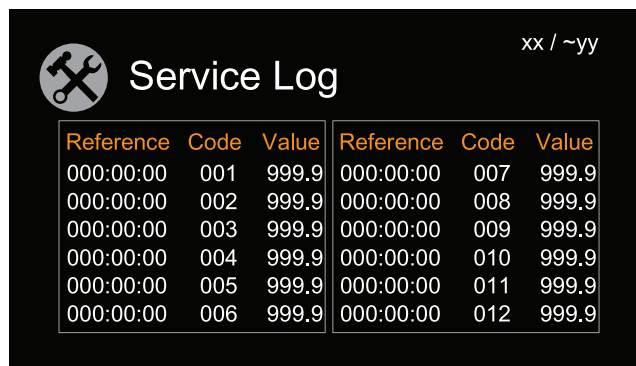

Figure 3 – Service log
2. Review the service log and clear (Figure 3).
Note - In the upper right hand corner of the service log screen (Figure 3), xx is the current page number. The yy displays the total number of service log pages.